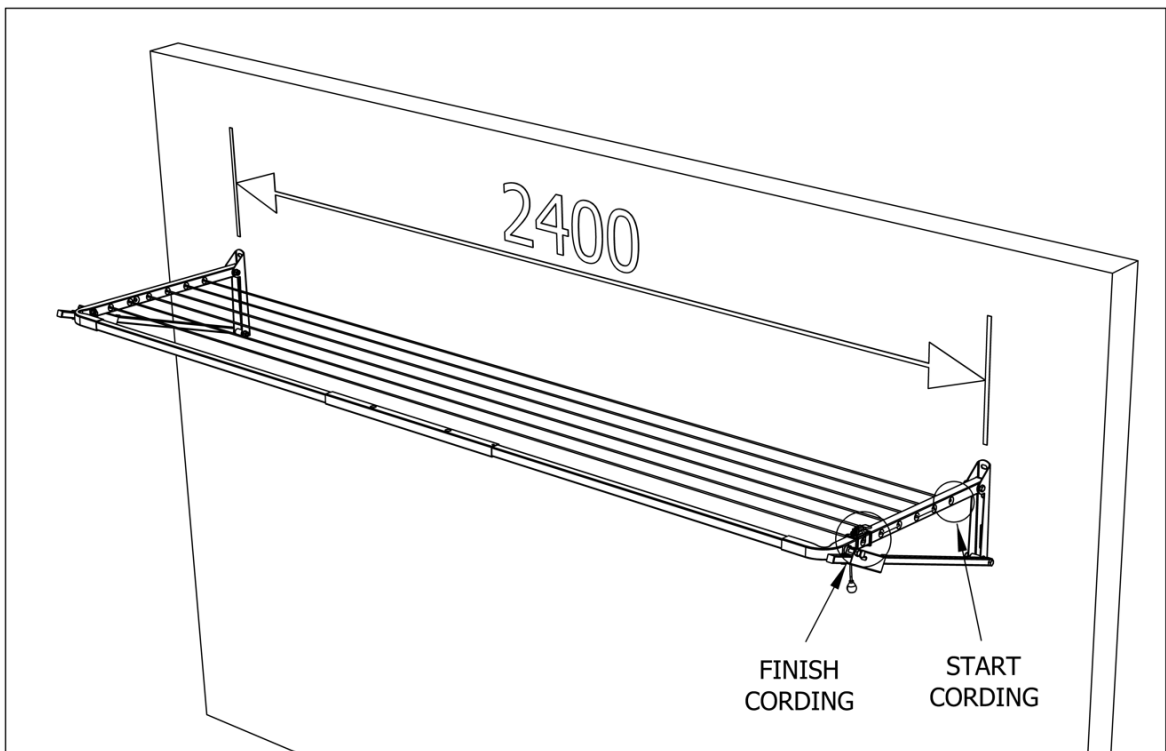

Fig 1. Slenderline 16 fitted to wall / Cord start stop positions.
7. Start cording at the rear right-hand hole, tie a knot in the cord to stop it pulling through. (Fig 1)
8. Working across and toward the front of the clothesline finish at the Line Tension Lock (L.T.L.) front right. (Fig 1)